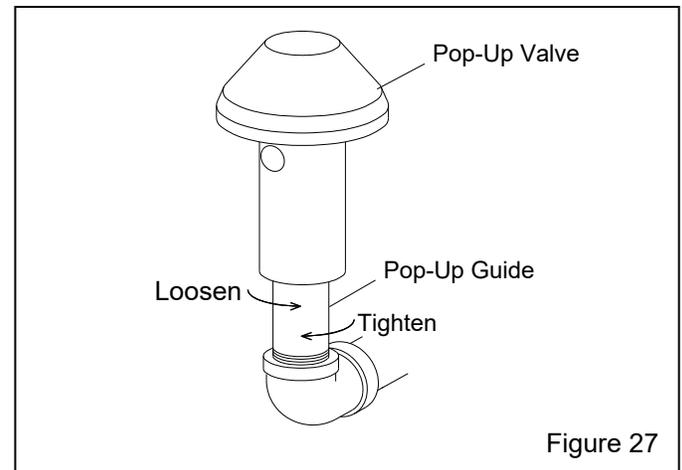

Figure 27
7.8.5 Use a short pipe wrench to unscrew the pop-up valve guide from the elbow by turning it counterclockwise, as shown in Figure 27. Remove the pop-up valve and guide from the machine.